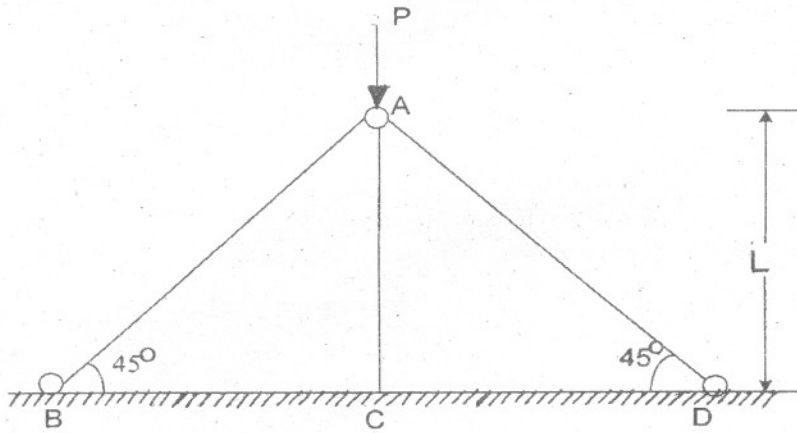

Fig. 9 (b)
- (b) Bars AB, AC and AD are slender steel rods of circular cross-section which all have the same flexural rigidity EI . They have pinned ends at A, B and D and a fixed end at C. Calculate the critical value of the vertical load P applied at A. Assume buckling of the bars to take place in the plane of the Fig. 9 (b). [8]